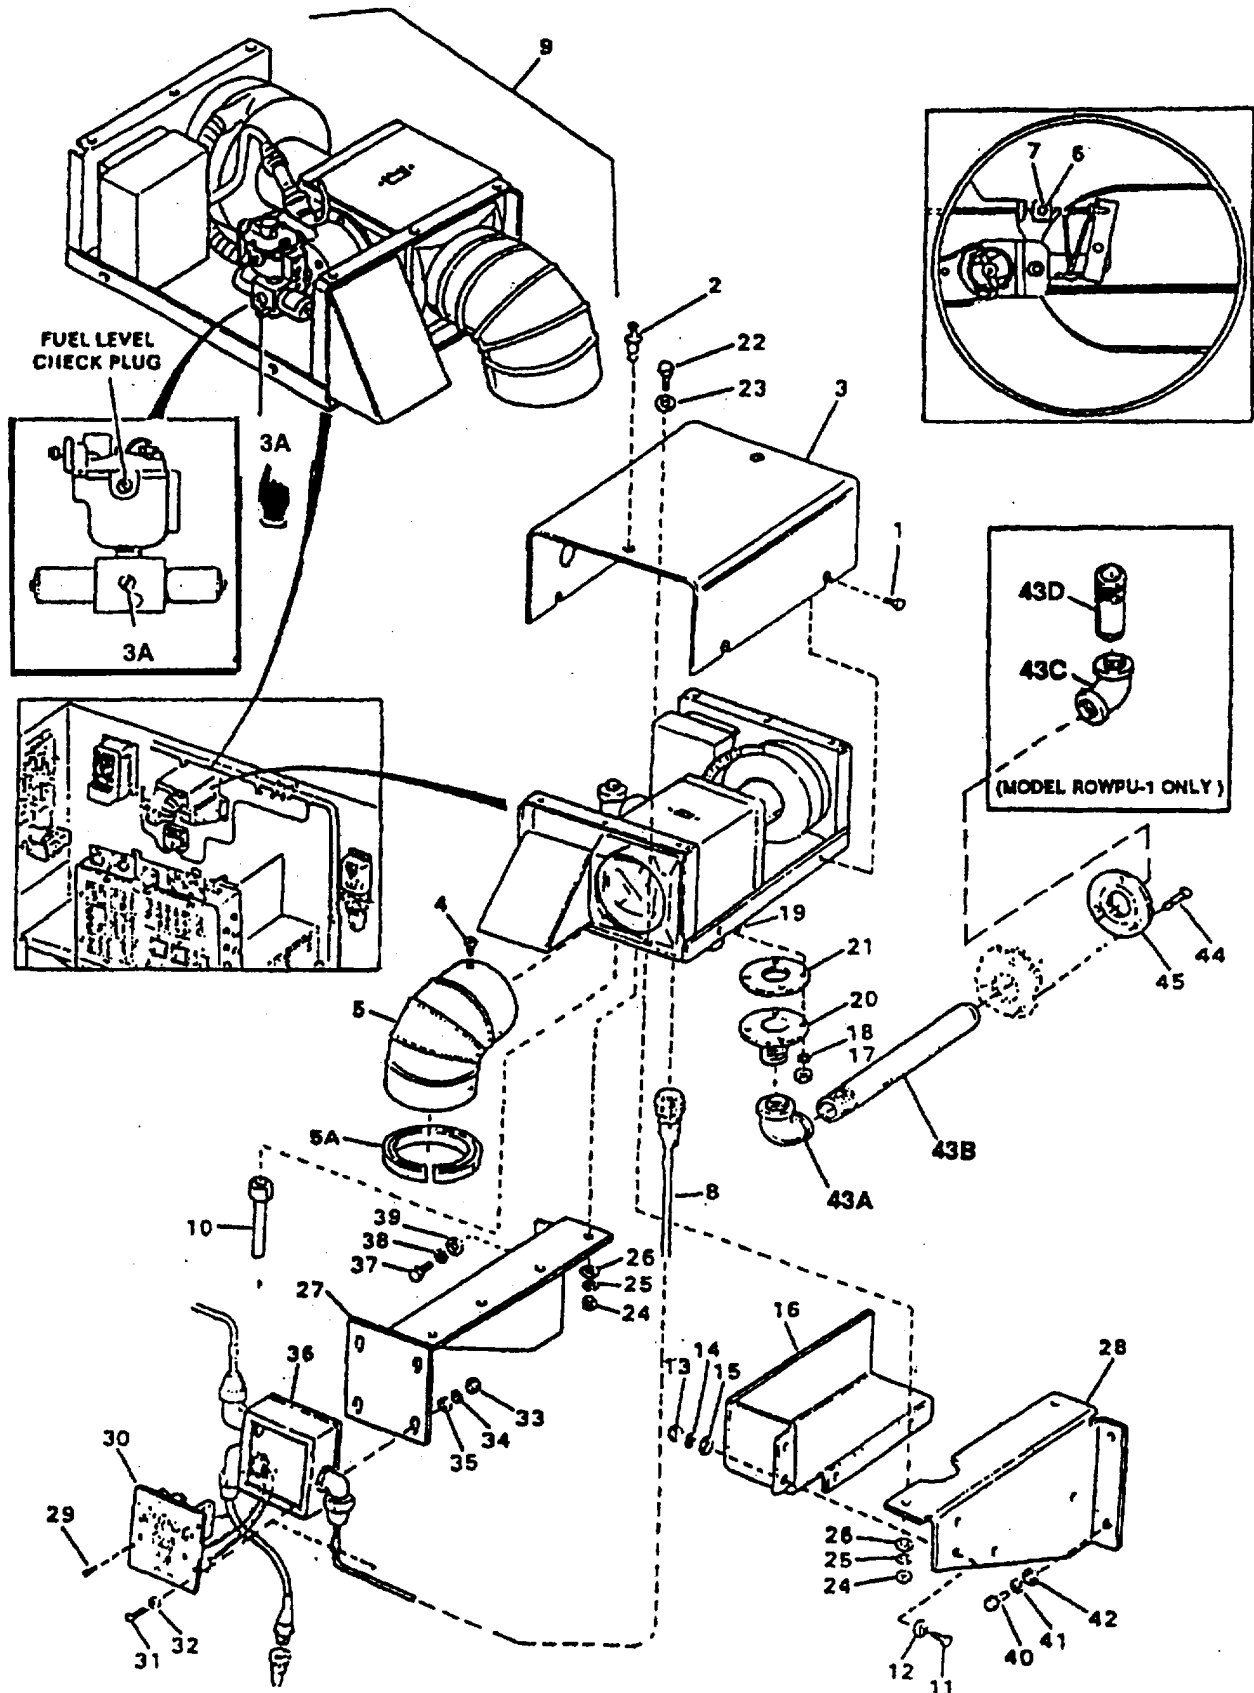

Figure 4-69. Diesel Heaters
- a. Carburetor Adjustment - POWER OFF (Refer to Figure 4-69).
- (1) Loosen four cover screws (1) and two cover latches (2).
- (2) Remove cover (3) by lifting up and out.
- (3) Cover screw with silicone sealant to prevent movement of screw by vibration.
- c. Hold Fire Thermostat Adjustment (Refer to Figure 4-69).
- (1) With power off, remove elbow (5) by removing screws (4). Remove profile trim (5A) from elbow (5).
- (2) With power on, start the heater. Move stop to the left to increase the temperature in the control range, or proceed as follows:
- (3) Move stop (7) to the right to decrease the temperature in the control range.
- (4) Tighten setscrew (6) after adjusting stop (7).